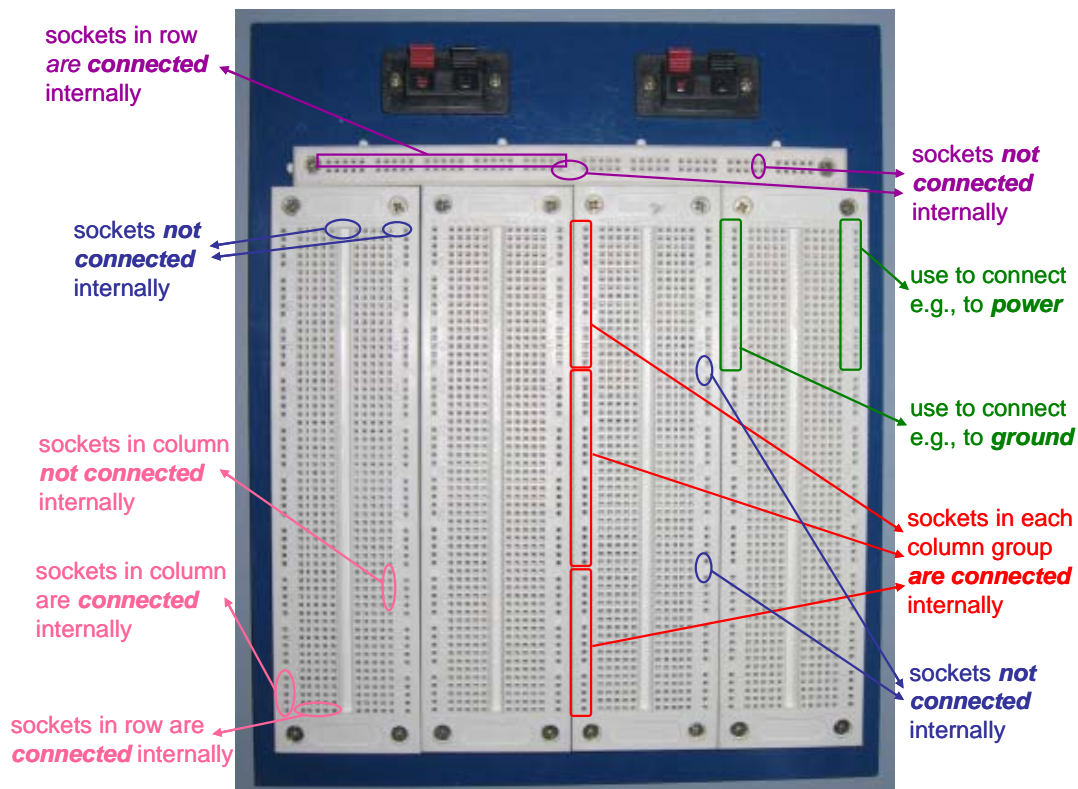

Figure 1 – “Breadboard” (Model: SYB-118) panel layout.
All the experiments are performed on a general-purpose logic board or “breadboard” (see **Figure 1**) with a fixed hardware configuration, into which integrated circuits can be inserted. Designs are implemented by pushing leads or components into the board. Beneath the surface, a fixed network of connections is used to connect the logic elements as required. Switches for setting input conditions and LED indicators for observing outputs or checking logic levels within a complex circuit are implemented by using a combination of an LED and a 220 Ohms resistor, connected to a power supply.
3. **Bottom Zone** (4 sets, each containing: 2 five-wide columns and 2 single columns) → This is the area where all the electronic components (including those in **Figure 5**) will be pushed into. Again, each of the single columns in this area can be used for connecting to **ground** or **power**, through a connection to one of the sets in the Middle Zone. **Figure 1** illustrates how each of the columns can be used.
- ✓ Breadboard (see **Figure 1**)